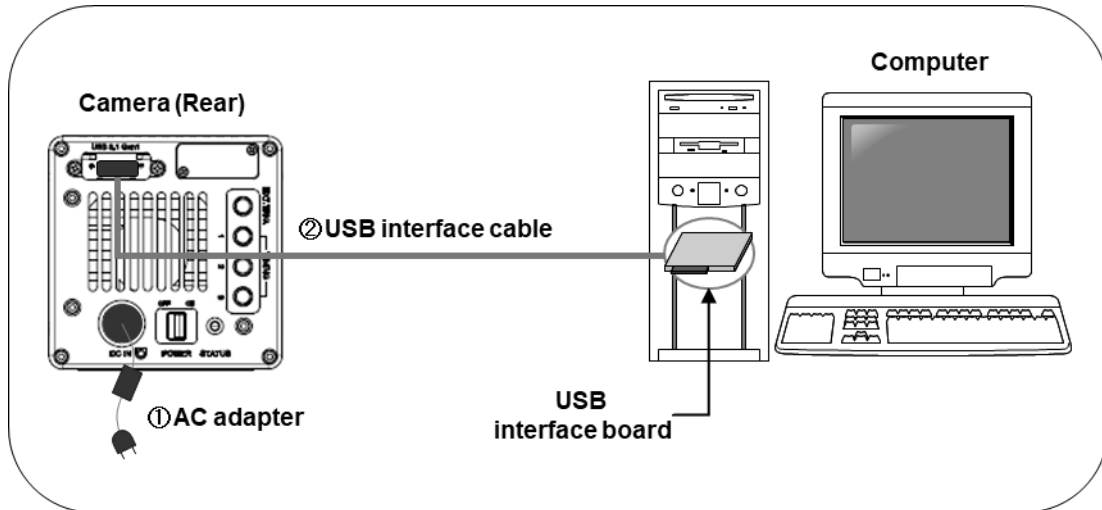

Figure 7-1
- (1) Connect devices as shown in Figure 7-1 before you start operation.
- (2) Turn on the computer's power switch.